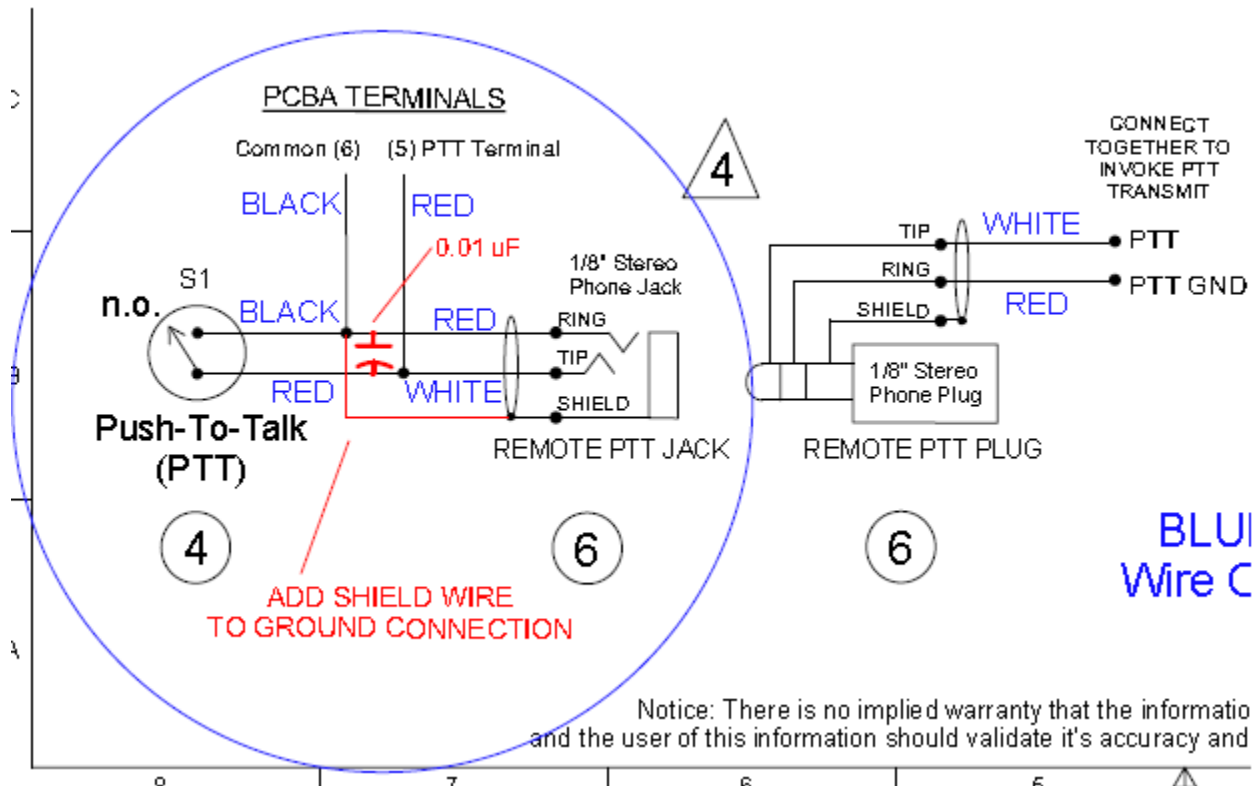

Figure 3. Capacitor Across Push-to-Talk (PTT) Cable Connections and Using Shielded Cables
- 2) Tie the shield wire, if available, to the ground connection inside the remote PTT switch black box (shown as the red wire in the Figure 3 above). If a shielded cable was not used for the PTT, consider changing this to reduce RF pickup.